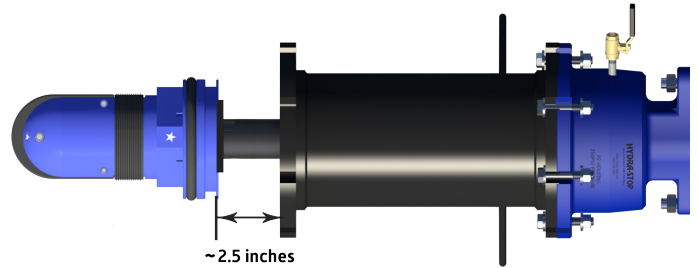

FIGURE 51
3.0.11) Insert the assembled valve cartridge and insertion tool through the insertion housing and tapping assembly until the top of the valve cartridge is approximately 2.5" from the bottom flange of the insertion housing. Ensure the shorter, truncated side of the valve cartridge marked with a star faces upwards (see Figure 51).